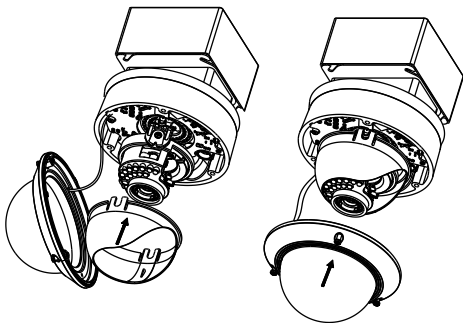

Figure 2-10 Secure the Bubble
11. Tighten the screws to secure the bubble with the camera as shown in Figure 2-10.